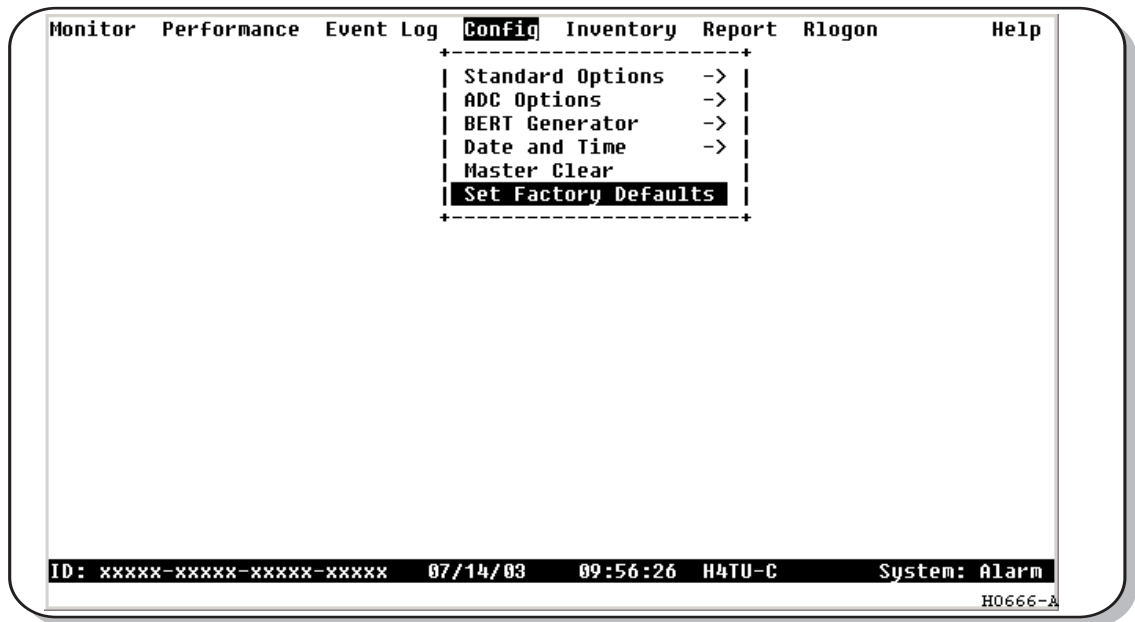

Figure 9. Config Menu - Set Factory Defaults
- 2 Use the **↑** and **↓** arrow keys to select **Set Factory Defaults** (see Figure 9), then press **ENTER**.